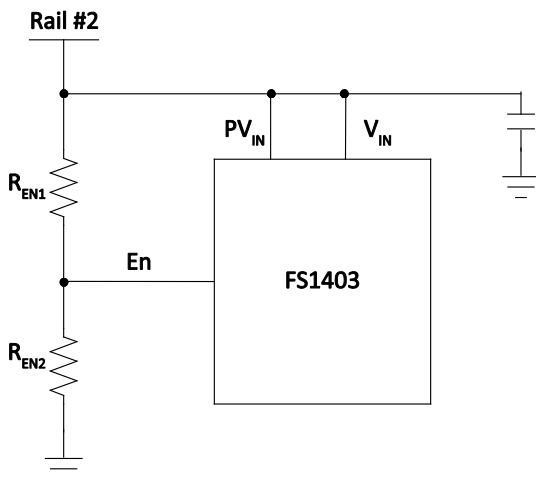

Figure 7 En pin used to monitor other rails for sequencing purposes
- It can be used to monitor other rails for a specific power sequencing scheme (Figure 7).